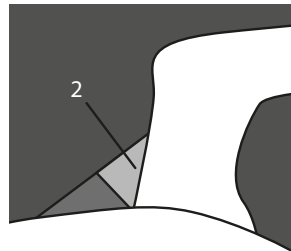

Fig 1. wear indicator - good condition
2. If a green indicator is visible (on the handle), then the AKS 3004 is in a new condition or the pads and towball are within the permissible limits (Fig 1 - Item 2).